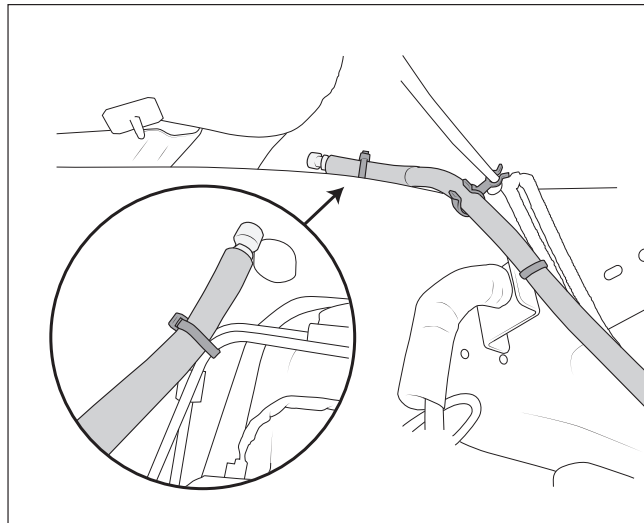

Figure 32
18. Reattach the axle vent hose. Pull slack out of the hose and secure with zip ties as shown (fig. 32).